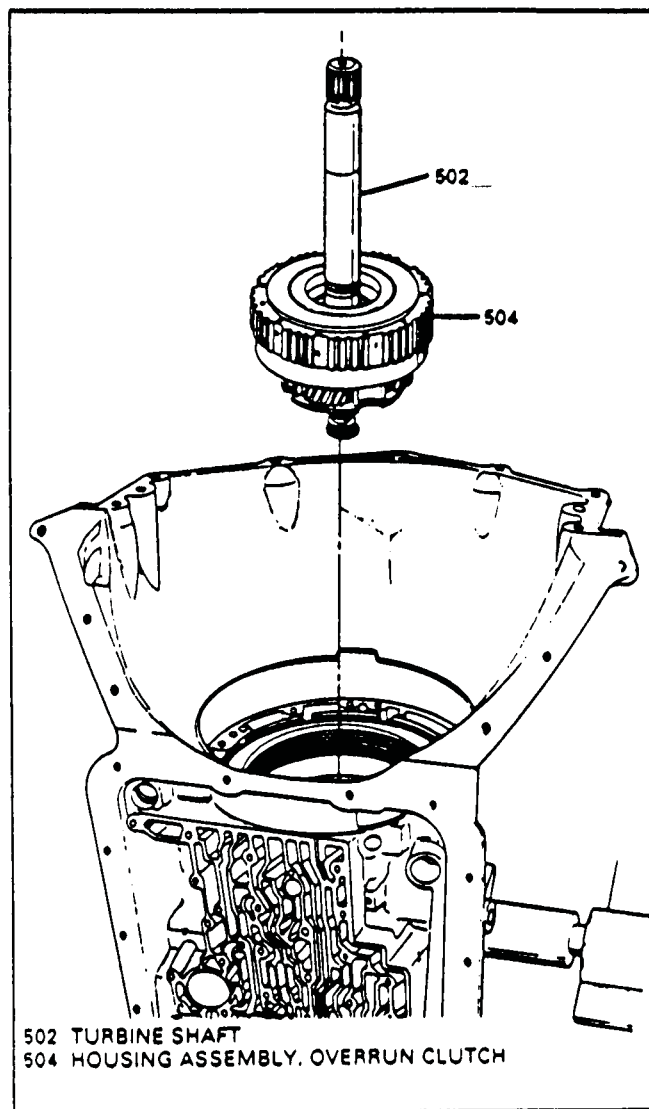

Figure 101
13. Install the complete overdrive unit into the transmission by rotating into position (See Figure 101).